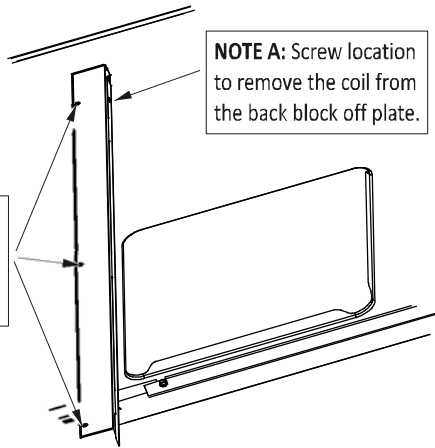

Figure 2
- B. Remove the single screw located on the top back left of the coil which secures it to the back filler plate as shown in Figure 2 Note A.
- B. Remove the three screws located between the supply and return air openings of the unit which secure the back block off plate as shown in Figure 2 Note B.